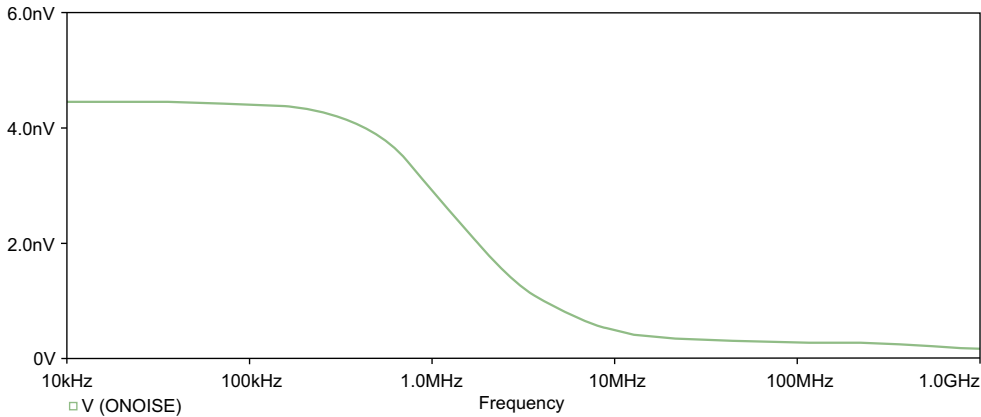

FIGURE 14.10
12. Delete I(Noise) and add the trace for V(ONoise) (Figure 14.10). The units are V/\sqrt{Hz} .